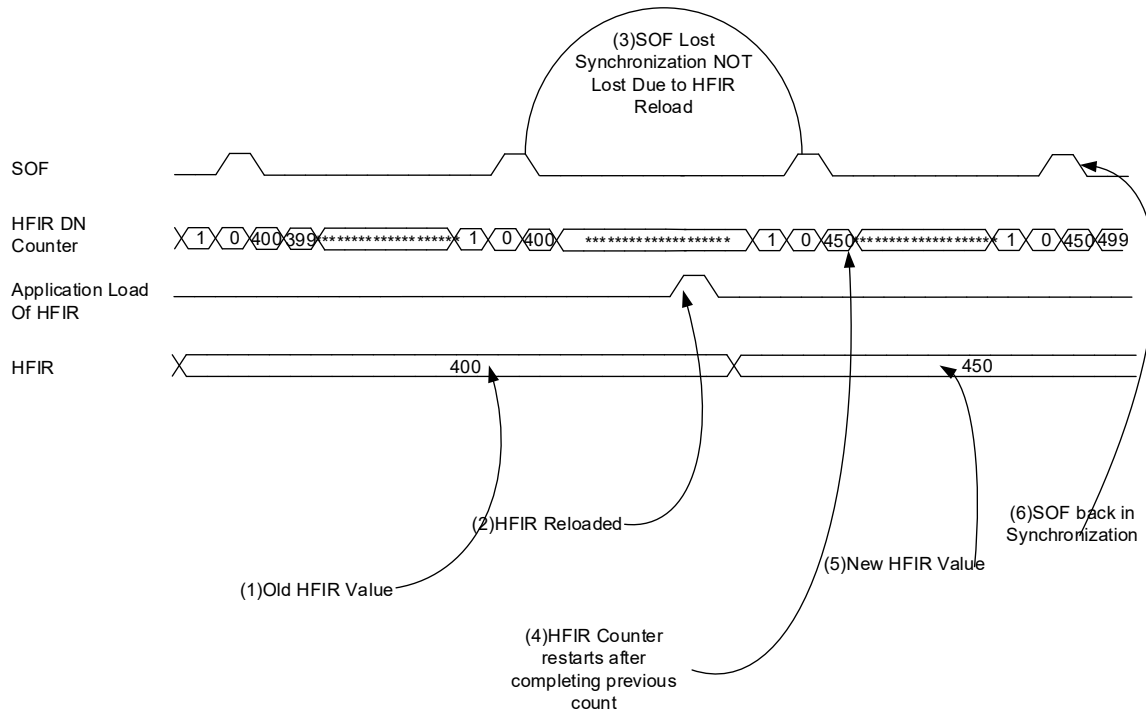

Figure 244. HFIR behavior when HFIRRLDCTRL = 0x1
- Figure 244 shows the HFIR behavior when HFIRRLDCTRL = 0x1 in the OTGFS_HFIR register.